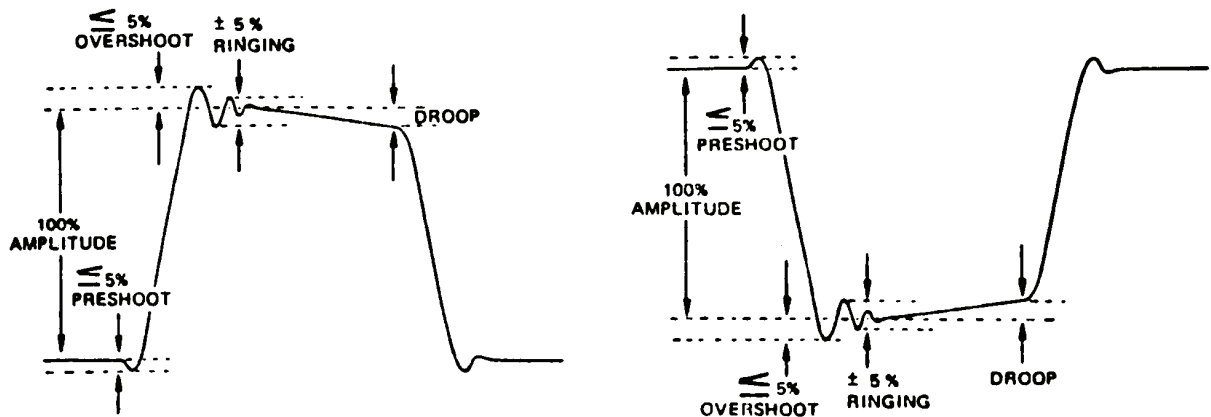

Figure 4. Preshoot, overshoot, and ringing characteristics.
(3) Oscilloscope will display a pulse with an amplitude between 27 and 33 V. Press **INT LOAD** pushbutton. Pulse amplitude will be between 13.5 and 16.5 V.
(4) Repeat technique of (3) above for settings listed in table 8. Oscilloscope will indicate within specified limits.
(5) Press **AMPLITUDE 10-30** pushbutton and set **AMPLITUDE VERNIER** dial to **1 (10V)**.
(6) Using standard measurement technique, measure the rise time and decay time of the **OUTPUT** pulse. If the rise time and decay time are not less than 15 ns, perform **b** (8) through (21) below.
(7) Set **POLARITY** switch to **NEG** and repeat (6) above.
(8) Measure preshoot, overshoot, and ringing of positive and negative **OUTPUT** pulse. If measurement is not less than 5 percent as shown in figure 4, perform **b** (8) through (21) below.